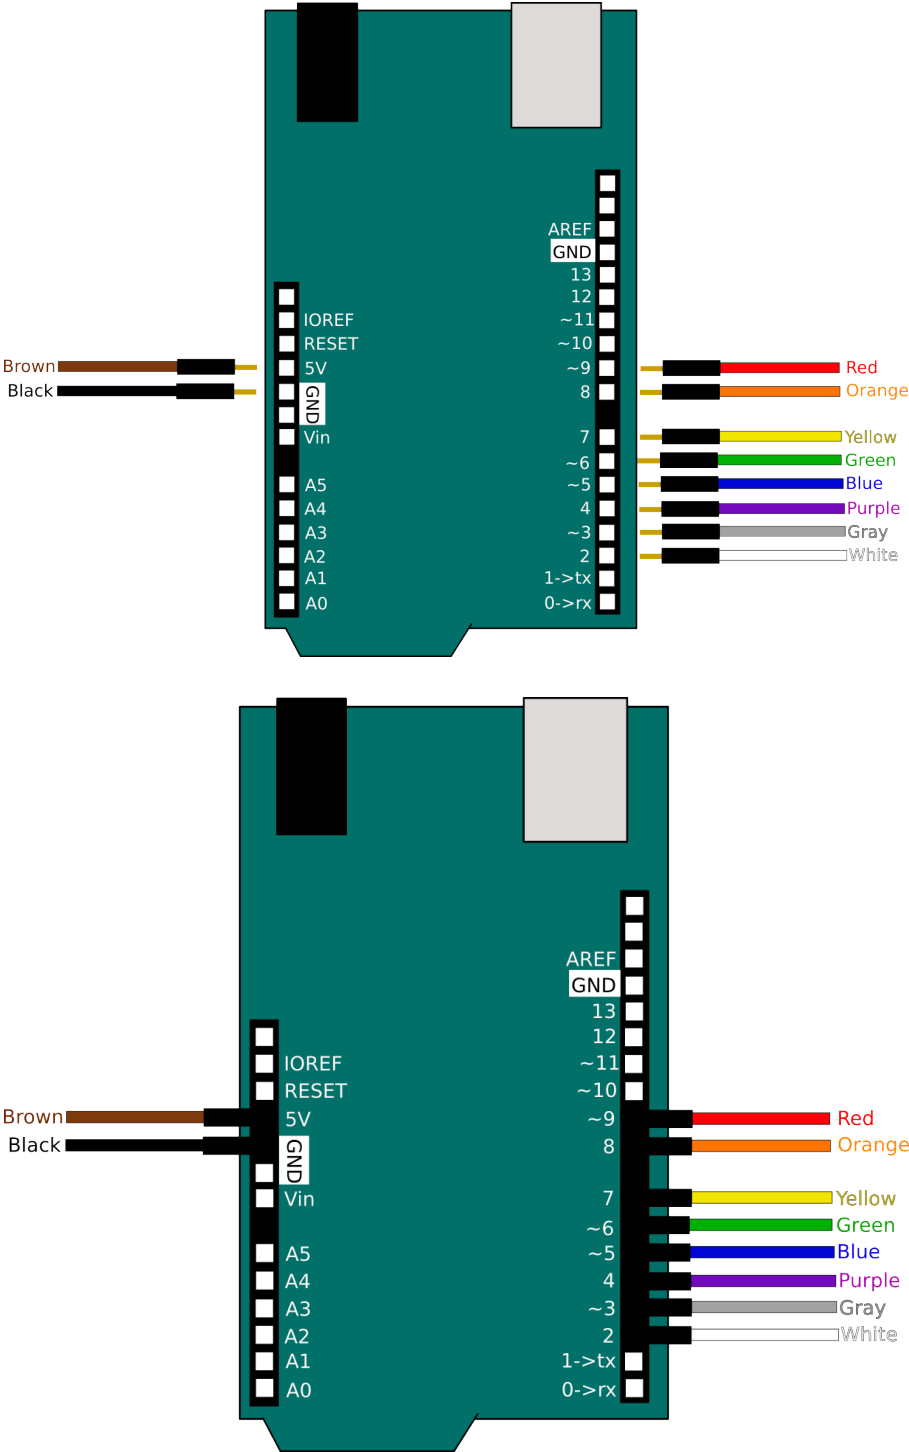

Figure A1: Arduino wiring diagram
2. If it is not broken replace it. See *Figure A1* for a wiring diagram. See *Table A1* for a chart of where wires can be connected.